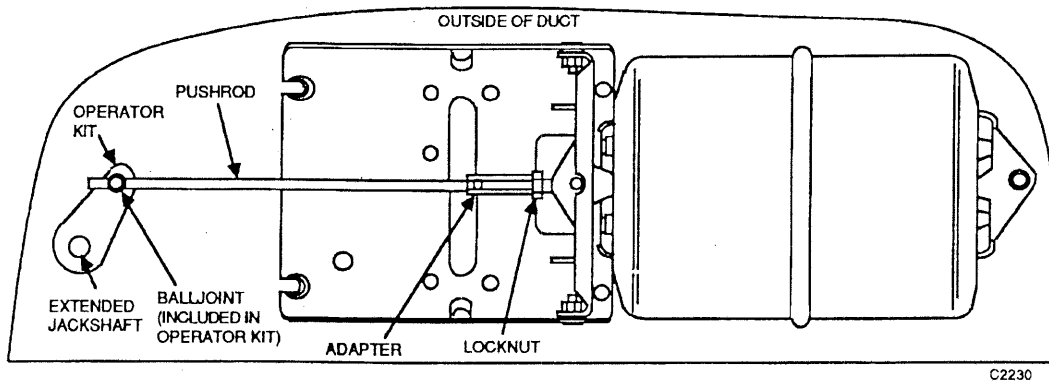

Fig. 29. External Mounting Using Operator Kit.
2. Extend jackshaft to the outside of the duct and mount actuator externally (Fig. 29). Use balljoint included in operator kit.